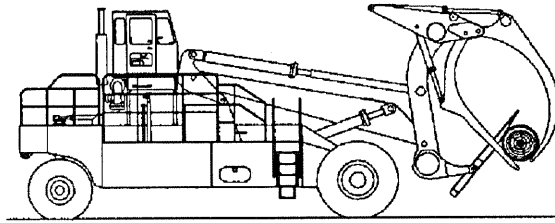

Fig 4-11
4. Fig. 4-11 shows a good example of the Lumberjack's flexibility. The log is under the tines and is held by the holddown and kickoff arms. Partial loads should be held with the hold-down and the kickoff arms.